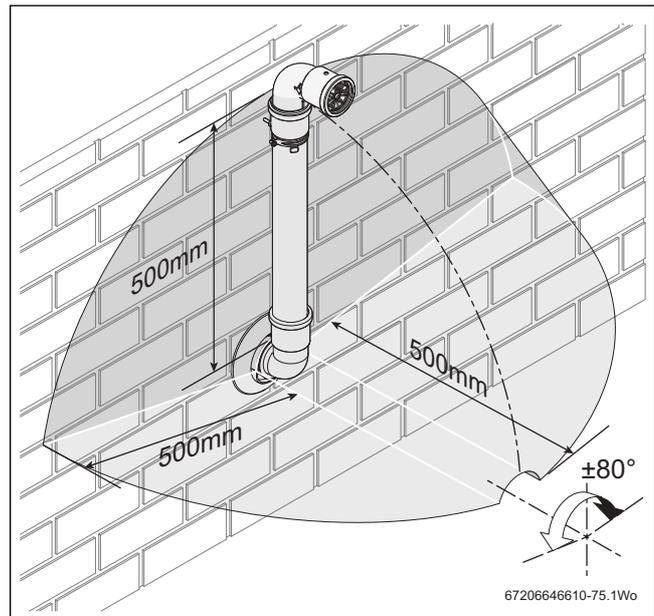

Fig. 23 Terminal exclusion zone
- ▶ Do not terminate the plume management inside the shaded area shown in figure 23.